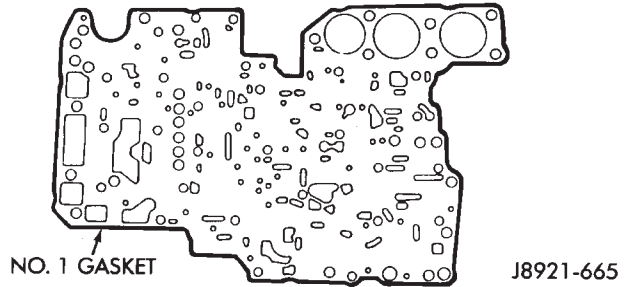

Fig. 1 Valve Body Gasket No. 1
- (1) Position new No. 1 gasket (Fig. 1) on upper body.
- (2) Position valve body plate on No. 1 gasket.